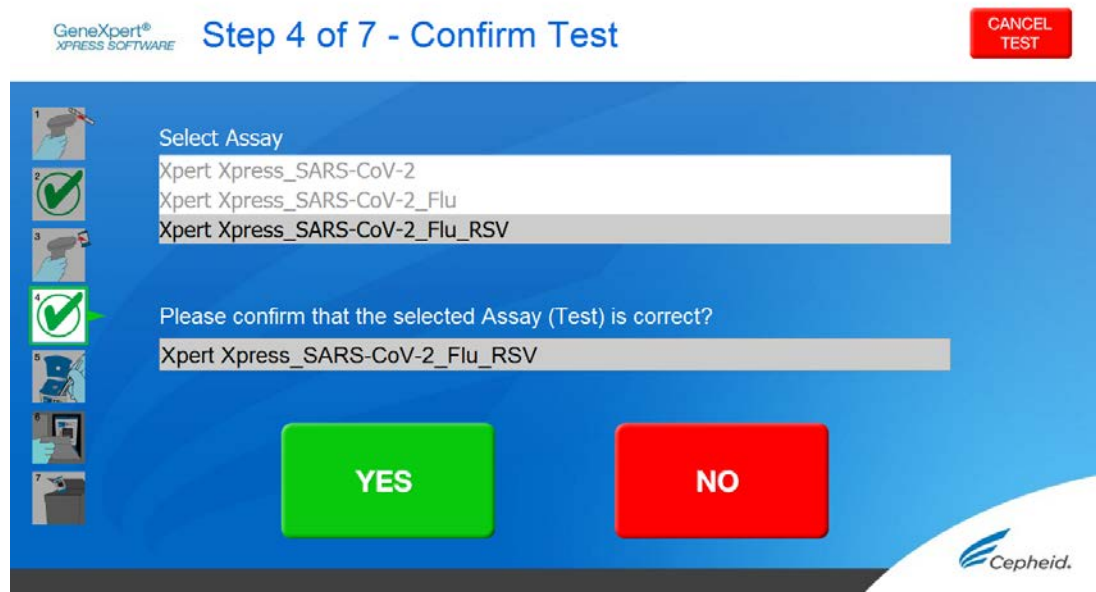

Figure 9. Confirm Test Screen
4. Confirm the selected test from the Select Assay menu (shown in Figure 9 below) and touch **YES** if the displayed information is correct. Enter your user name and password if prompted.